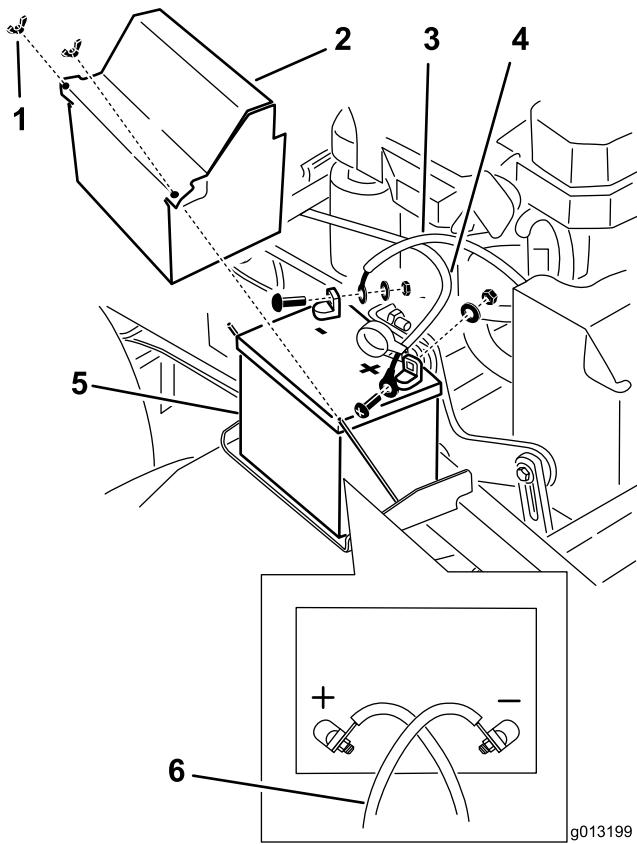

Figure 52
3. Disconnect the negative battery cable from the negative (-) battery terminal (Figure 52).
4. Slide the red terminal boot off the positive (red) battery terminal. Then remove the positive (red) battery cable (Figure 52).
5. Remove the battery hold down plate (Figure 52) and remove the battery.
1. Place the battery onto the machine (Figure 52).
3. First, install the positive (red) battery cable to positive (+) battery terminal with a nut, washer and bolt (Figure 52). Slide the rubber cover over the post.
4. Then install the negative battery cable and ground wire to the negative (-) battery terminal with a nut, washer and bolt (Figure 52).
Note: The battery cables will crossover each other when they are correctly installed (Figure 52).